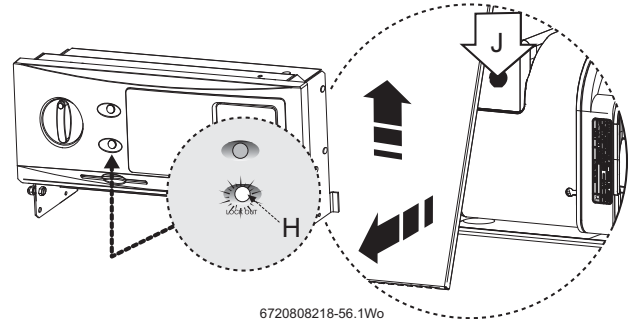

Fig. 73
- ▶ Wait two minutes then press the lockout reset button [J] (\rightarrow figure 73) to initiate another start sequence.